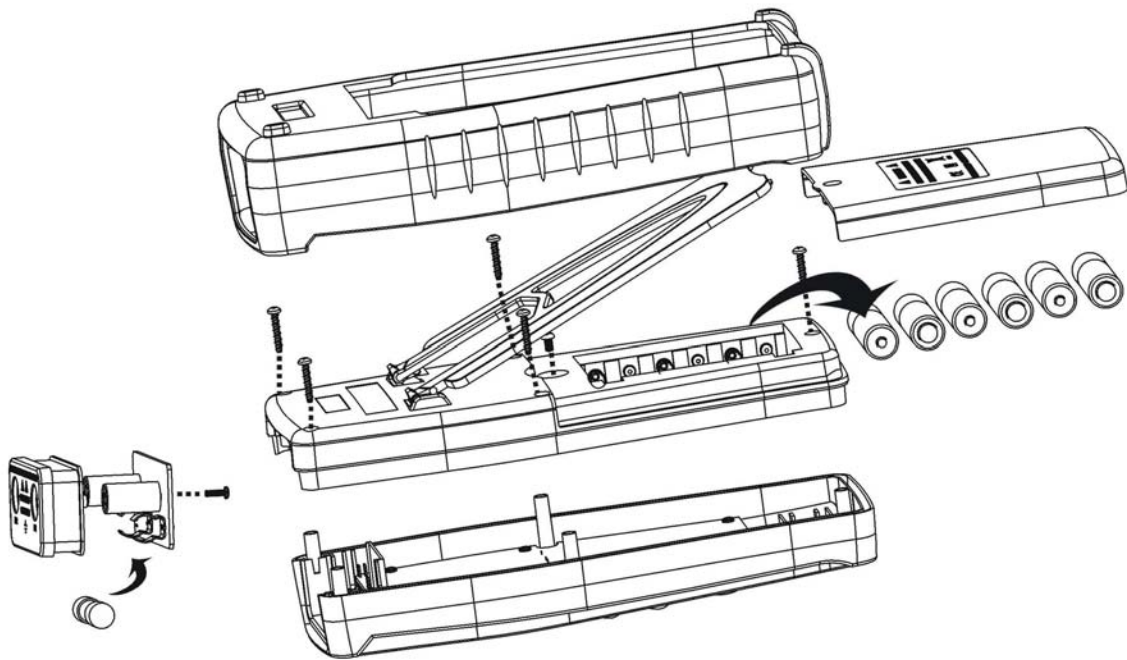

Figure 2
3. Remove hood and battery compartment cover by using a screwdriver. (*Refer to Figure 2*)
Battery Replacement (Refer to Figure 2)
Replacing Fuse (Refer to Figure 2)